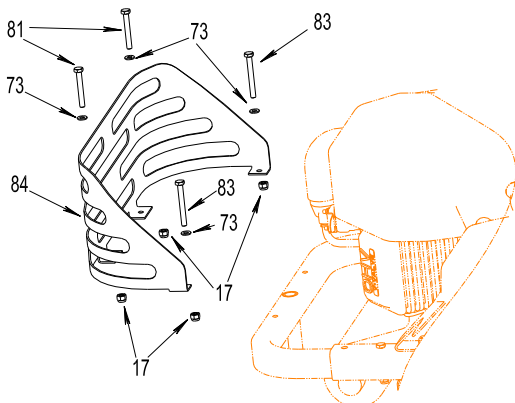

FIG 5
a) Remove Part No. 84 (rear engine guard). (Keep the removed parts in a bag for later use.) Part No. 81, 83, 73 and 17 are used in this step. Tighten Part No. 83 again in its original position. (FIG 5)